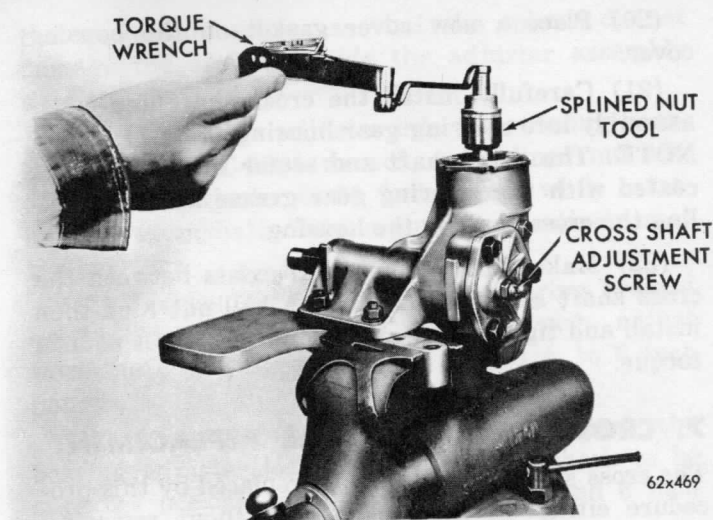

Fig. 20—Testing Ball Nut Rack and Cross Shaft Sector Mesh
(3) Turn the worm shaft about $\frac{1}{4}$ turn away from the center or "high spot" position. Again using splined adapter from Tool Set C-3884 and C-3380 torque wrench (Fig. 20) rotate the wormshaft through the center or "high spot" position, observing the rotating torque required to turn the gear through the high spot. The reading should be between 10 and 15 inch pounds. This represents the